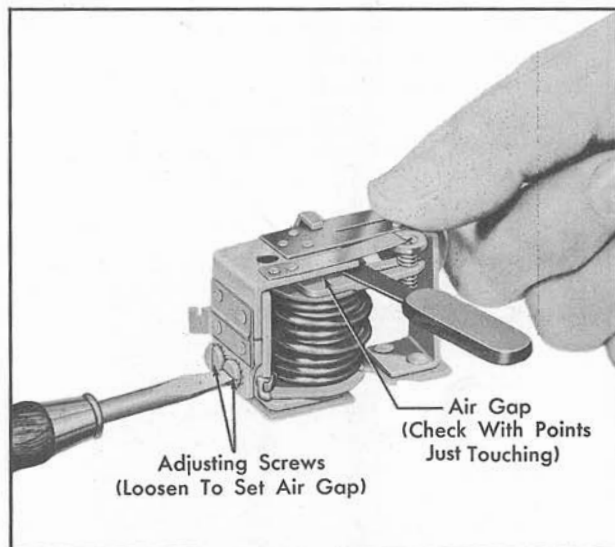

Fig. 12-9 Checking and Adjusting Cut-Out Relay Air Gap
2. Measure air gap between armature and center of core as shown in Fig. 12-9. Air gap should be .020". Check to see that both points close simultaneously; bend contact arms slightly if necessary.
3. To adjust air gap, loosen two screws in back of relay and raise or lower armature as required, Fig. 12-9. Tighten screws securely after adjustment.